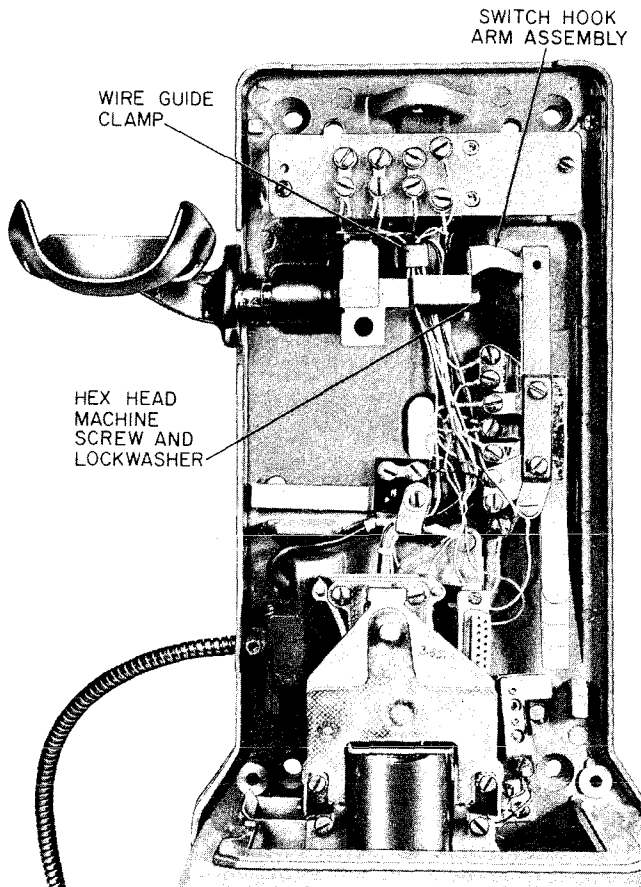

Fig. 33—Old 2-Piece Switch Hook Installed
- (1) Remove and retain hex head machine screw, lockwasher, tension spring, switch hook arm assembly, and any spacing washer that may be present, from right end of shaft (Fig. 33).
- (2) Slide switch hook to the left and out of bearings.
3.47 Remove wire guide clamp (Fig. 33).